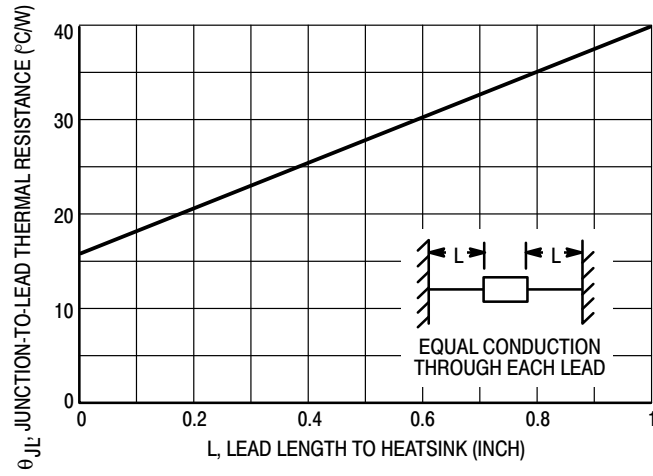
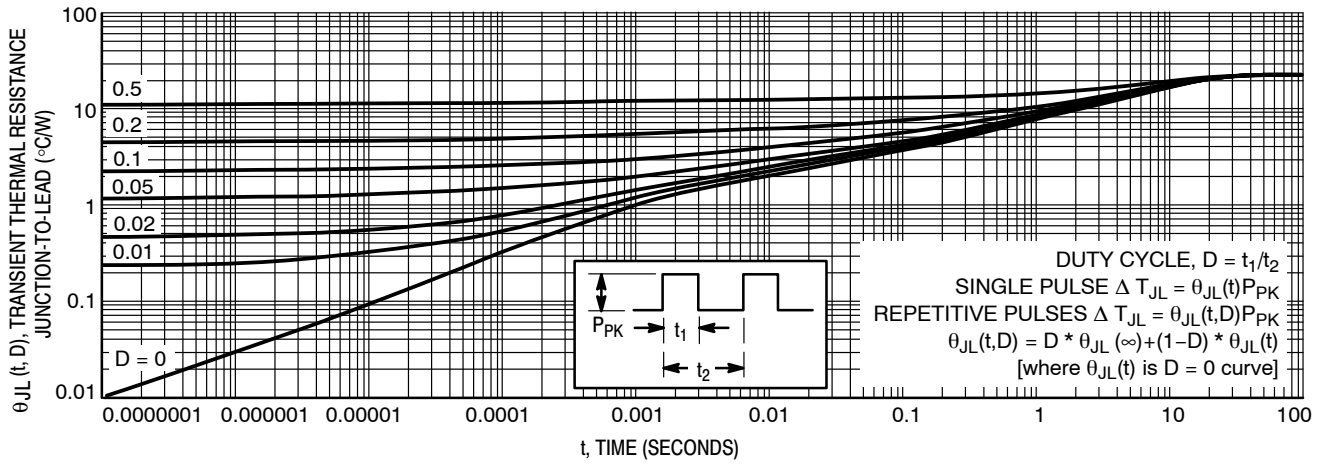
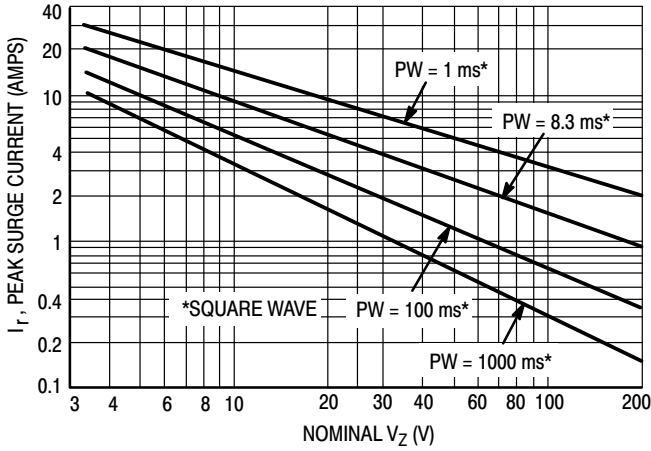
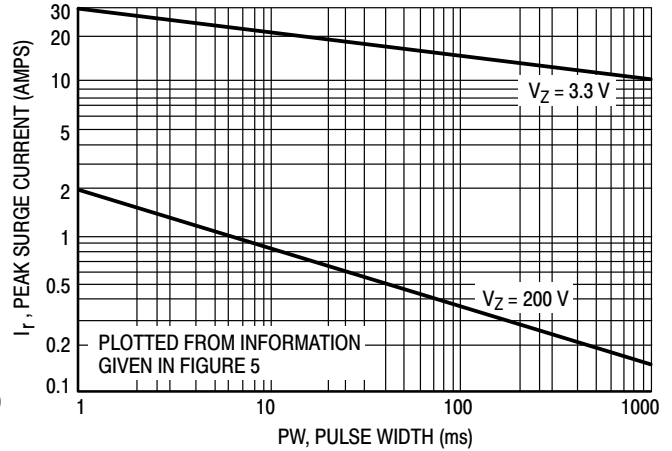

Figure 1. Typical Thermal Resistance
Figure 4. Typical Thermal Response
Figure 5. Maximum Non-Repetitive Surge Current versus Nominal Zener Voltage
Figure 6. Peak Surge Current versus Pulse Width
- SURGE CURRENT (I_R):** Surge current is specified as the maximum allowable peak, non-recurrent square-wave current with a pulse width, PW, of 8.3 ms. The data given in Figure 5 may be used to find the maximum surge current for a square wave of any pulse width between 1 ms and 1000 ms by plotting the applicable points on logarithmic paper. Examples of this, using the 3.3 V and 200 V zener are shown in Figure 6. Mounting contact located as specified in Note 2 ($T_A = 25^\circ\text{C} + 8^\circ\text{C}, -2^\circ\text{C}$).
- SURGE CURRENT (I_P):** Surge current is specified as the maximum allowable peak, non-recurrent square-wave current with a pulse width, PW, of 8.3 ms. The data given in Figure 5 may be used to find the maximum surge current for a square wave of any pulse width between 1 ms and 1000 ms by plotting the applicable points on logarithmic paper. Examples of this, using the 3.3 V and 200 V zener are shown in Figure 6. Mounting contact located as specified in Note 7 ($T_A = 25^\circ\text{C} + 8^\circ\text{C}, -2^\circ\text{C}$).
ΔT_{JL} is the increase in junction temperature above the lead temperature and may be found from Figure 4 for a train of power pulses or from Figure 1 for dc power.
Data of Figure 4 should not be used to compute surge capability. Surge limitations are given in Figure 5. They are lower than would be expected by considering only junction temperature, as current crowding effects cause temperatures to be extremely high in small spots resulting in device degradation should the limits of Figure 5 be exceeded.